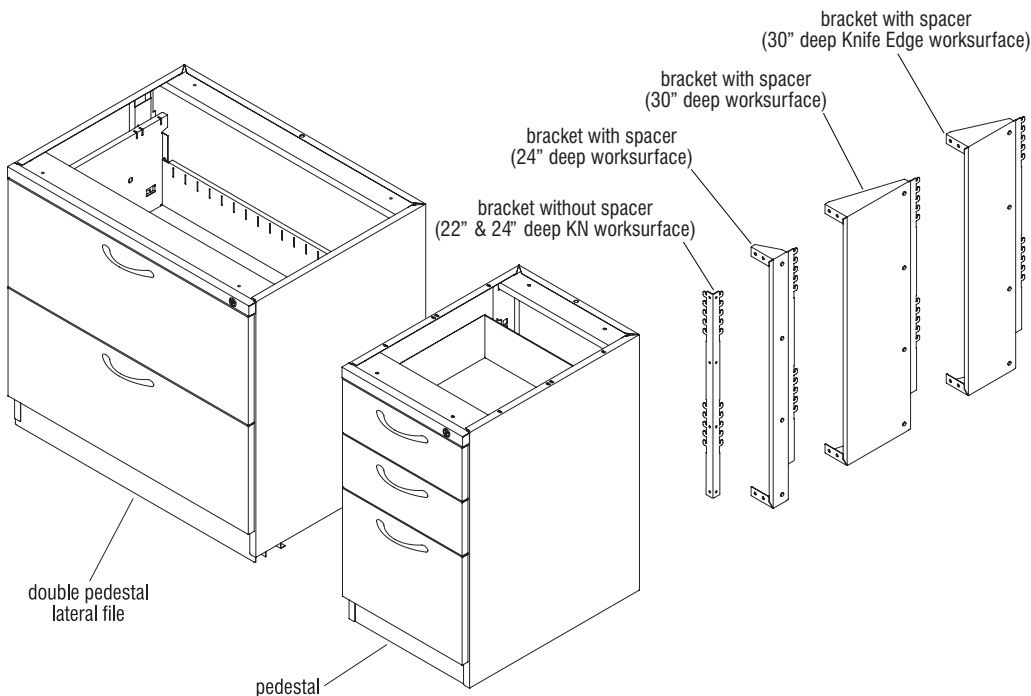

Figure 21
- One of four brackets is specified to attach a pedestal to the panel wall, depending on worksurface type, depth, and according to space-planning layout. A support bracket with no spacer is only used on 22" deep worksurfaces and 24" deep with Knife Edge. Brackets with spacers are used to extend the pedestal out from the panel to match the depth of the worksurface (24", 30", and 30" Knife Edge)(Figure 21).
Note: The pedestal mounts to the panel and worksurface the same regardless of bracket type (Figure 21).
The Unite Panel System offers pedestals and double pedestal lateral files (Figure 21) as support for worksurfaces of indicated depths. A space-planning layout details correct worksurface